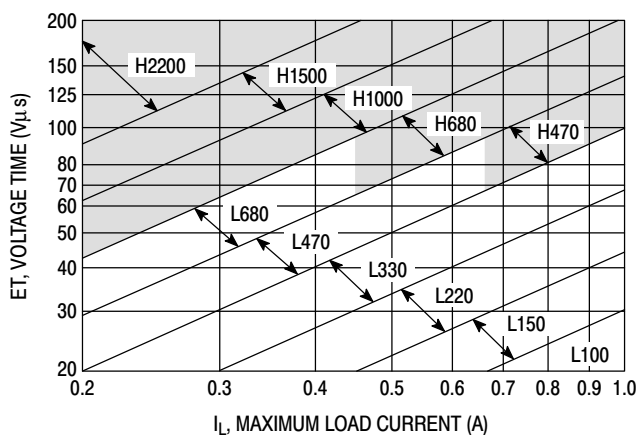

Figure 21. LM2575-Adj
4. Inductor Selection (L1) A. Use the following formula to calculate the inductor Volt x microsecond [V x μs] constant: $E \times T = \left(V_{in} - V_{out} \right) \frac{V_{out}}{V_{on}} \times \frac{10^6}{F[\text{Hz}]} \text{ [V x } \mu\text{s]}$ B. Match the calculated E x T value with the corresponding number on the vertical axis of the Inductor Value Selection Guide shown in Figure 21. This E x T constant is a measure of the energy handling capability of an inductor and is dependent upon the type of core, the core area, the number of turns, and the duty cycle. C. Next step is to identify the inductance region intersected by the E x T value and the maximum load current value on the horizontal axis shown in Figure 21. D. From the inductor code, identify the inductor value. Then select an appropriate inductor from the Table 1 or Table 2. The inductor chosen must be rated for a switching frequency of 52 kHz and for a current rating of $1.15 \times I_{load}$. The inductor current rating can also be determined by calculating the inductor peak current: $I_{p(\text{max})} = I_{\text{Load}(\text{max})} + \frac{\left(V_{in} - V_{out} \right) t_{on}}{2L}$ where t_{on} is the "on" time of the power switch and $t_{on} = \frac{V_{out}}{V_{in}} \times \frac{1}{f_{osc}}$ For additional information about the inductor, see the inductor section in the "External Components" section of this data sheet.	4. Inductor Selection (L1) A. Calculate E x T [V x μs] constant: $E \times T = (12 - 8.0) \times \frac{8.0}{12} \times \frac{1000}{52} = 51 \text{ [V x } \mu\text{s]}$ B. E x T = 51 [V x μs] C. $I_{\text{Load}(\text{max})} = 1.0 \text{ A}$ Inductance Region = L220 D. Proper inductor value = 220 μH Choose the inductor from the Table 1 or Table 2.